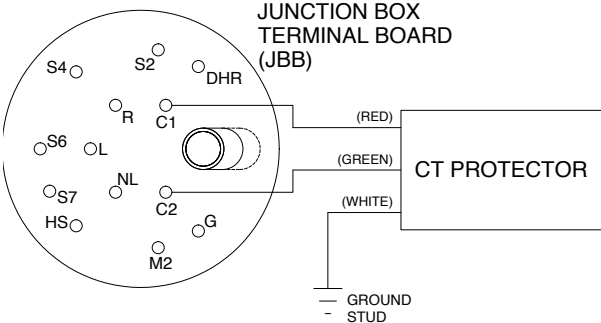

Figure 2. Diagram of junction box terminal board and CT protector
2. Remove connection at C1 of terminal block and reinstall with additional red wire of CT protector. Verify that the ring tongue terminals are not making contact with any other stud on the terminal block. See Figure 2.
3. Remove connection at C2 of terminal block and reinstall with additional green wire of CT protector. Verify that the ring tongue terminals are not making contact with any other stud on the terminal block. See Figure 2.